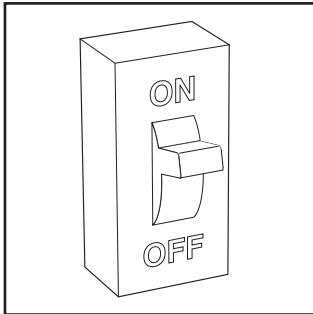

Fig. 11 – Turn On Electrical Supply
- Turn ON the electrical supply to the furnace. See Fig. 11.
9. Turn on electrical supply to furnace (See Fig. 11).
12. Turn on electrical supply to furnace (See Fig. 11).